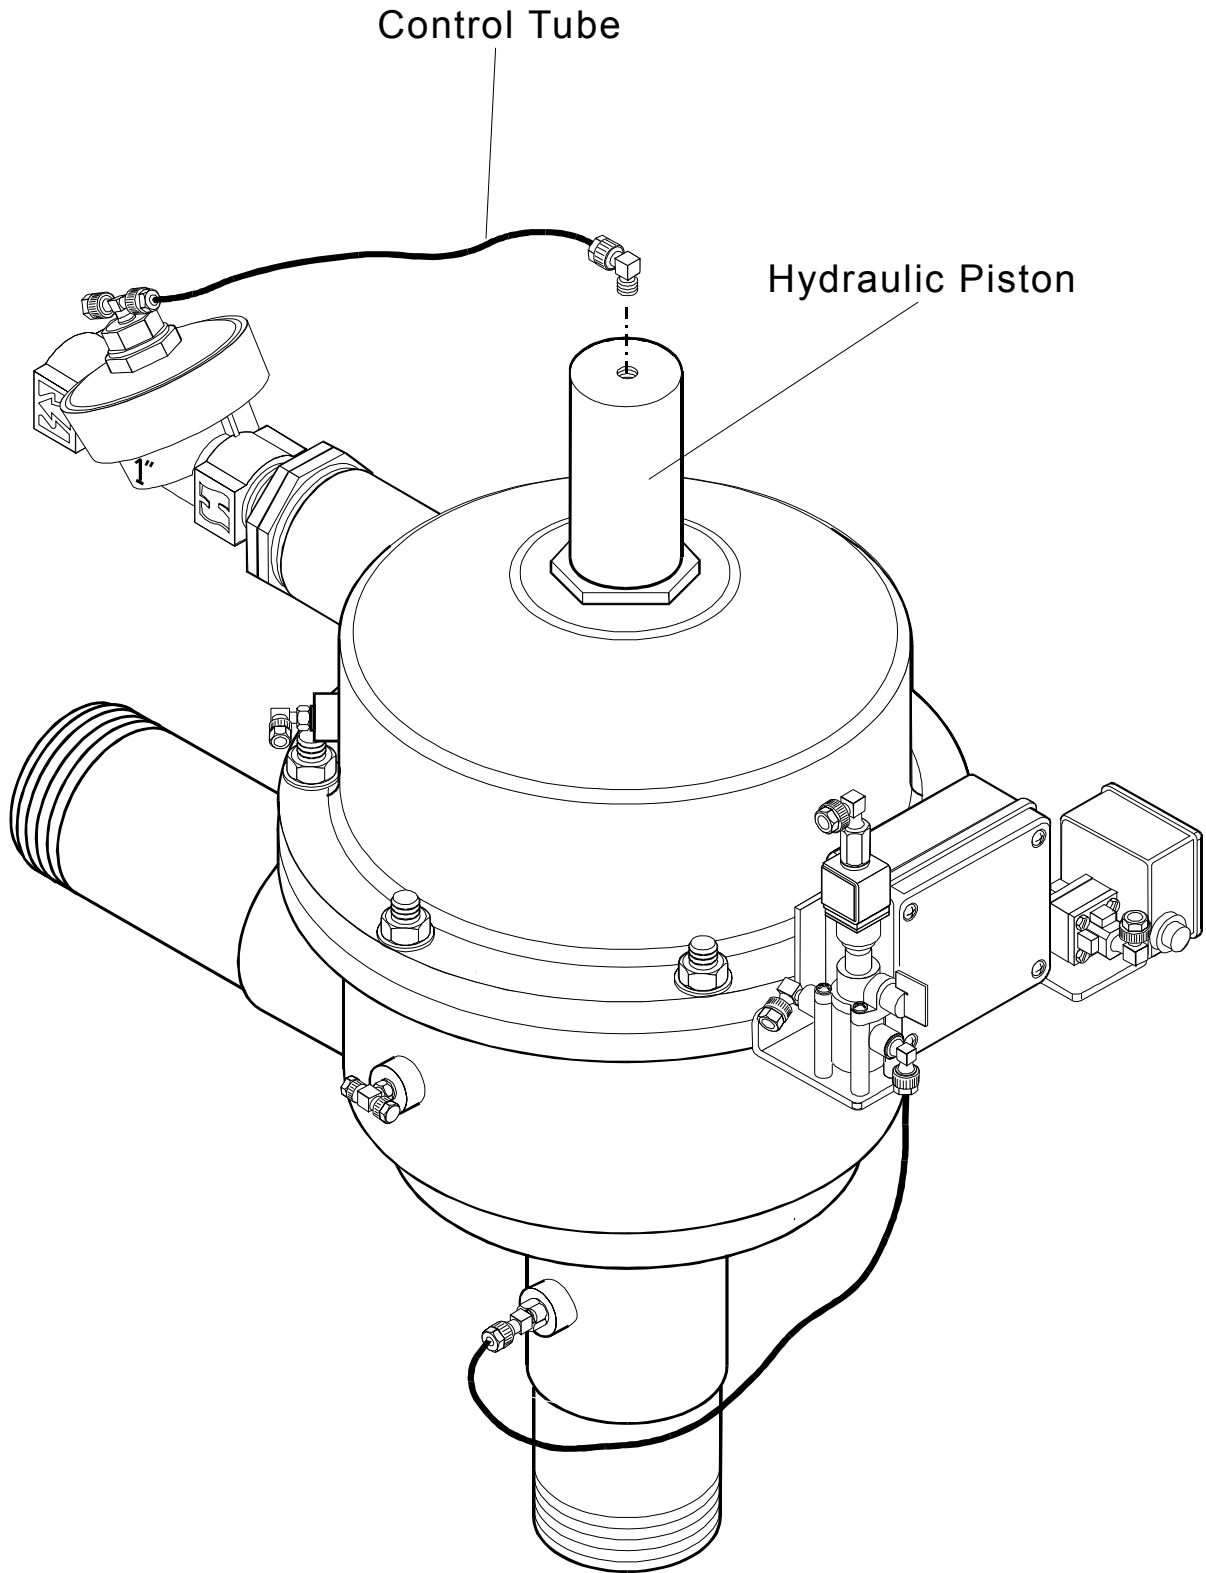

Figure 7: Piston Removal & Installation
Hydraulic Piston Removal & Installation (Figure 7)
19. Connect the control tubes to the filter assembly housing (See Figure 7).